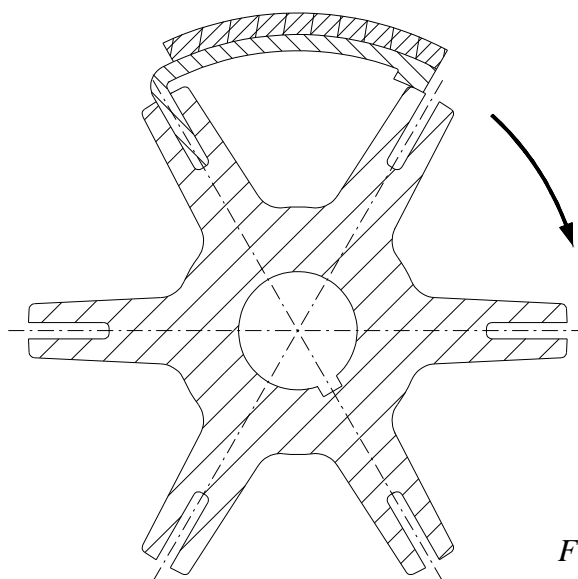

Figure 9.2
- 5) Preassemble the clutch shoe-holders and shoes (parts 07.040.0 to 07.060.0) on the motor shaft (07.010.0) and then fasten all to the frame with the screws (07.020.0). Clutch shoe must be set as indicate in Fig. 9.2 (with reference to motor direction of rotation) and insert on shoe holder in symmetrical position. Before carrying out this step of the assembly, carefully clean the clutch pulley and shoes with abrasive cloth.